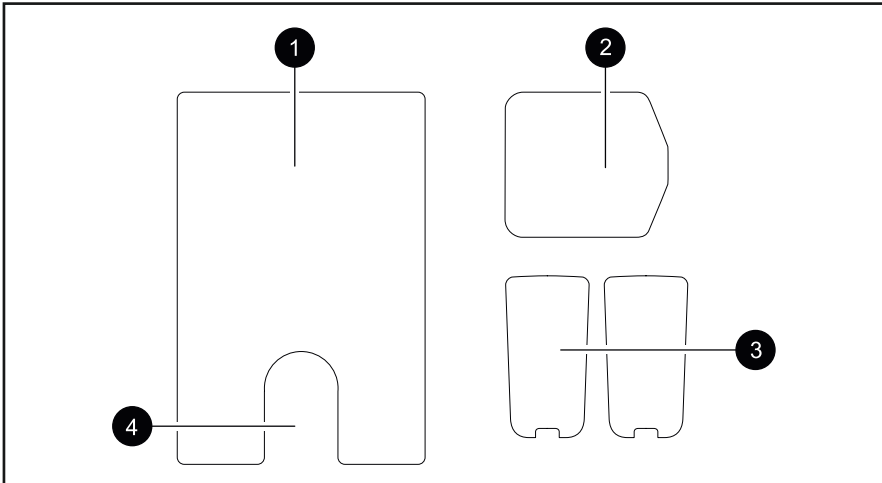

Fig. 4: Overview of the adhesive pads
7. Clean the handlebar adapter and the dguard® button thoroughly for the adhesive pad (Fig. 4/3) and remove all residue of dust, moisture or grease.
The adhesive surfaces of the adhesive pad (Fig. 4/3) must be dry and free of dust and grease. Clean the adhesive surfaces thoroughly before sticking.
8. Ensure that the adhesive surface of the adhesive pad (Fig. 4/3) is free of impurities.
9. Stick the adhesive pad (Fig. 4/3) to the handlebar adapter.
- Select a location on the cockpit with sufficient space for the adhesive pad (Fig. 4/3).
1. Clean the selected location in the cockpit thoroughly for the adhesive pad (Fig. 4/3) and the dguard® button and remove all residue of dust, moisture and grease.
3. Ensure that the adhesive surface of the adhesive pad (Fig. 4/3) is free of impurities.
4. Stick the adhesive pad (Fig. 4/3) to the selected location.
- Select a location on your motorbike with sufficient space for the adhesive pad (Fig. 4/2).
4. Clean the selected location for the adhesive pad (Fig. 4/2) and the GPS antenna thoroughly and remove all residue of dust, moisture or grease.
The adhesive surfaces of the adhesive pad (Fig. 4/2) must be dry and free of dust and grease. Clean the adhesive surfaces thoroughly before sticking.